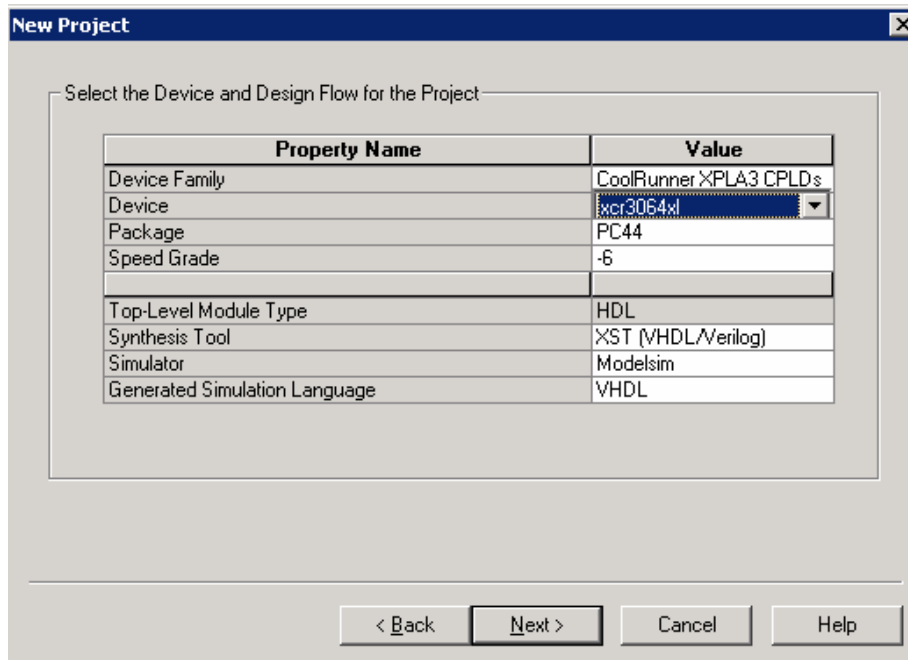

Figure 4: Device Settings
4. Setup CPLD options; The next window you'll get is shown in figure 4. Note that it is essential to choose the correct CPLD part number for the project to work. There are ways to change this part number after creating the project, but it is just easier to choose the correct one at a first time.